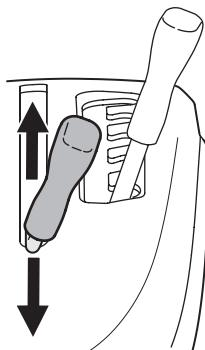

Figure 20
- Push the PTO (Blade Engage) Lever forward into the engaged (ON) position. See Figure 20.